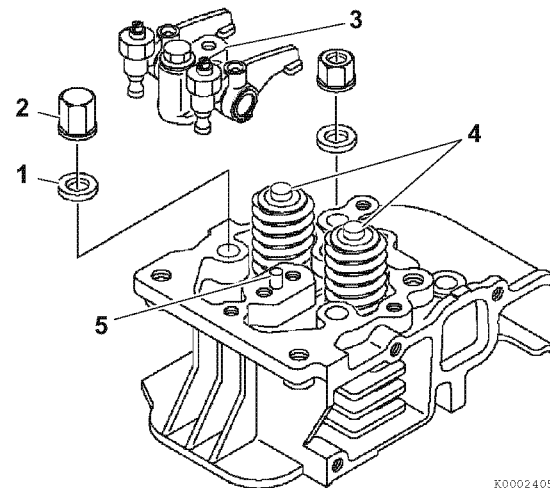

Figure 6-23
*Note: Install the cap nuts (2, **Figure 6-23**) on the studs that will be covered by the rocker arm cover.*
5. Lightly oil the threads of the cylinder head studs. Install the washers (1, **Figure 6-23**) and nuts. Tighten to the specified torque in two steps as shown in the chart below. Tighten in an "X" pattern. *See Special Torque Specifications on page 6-17 for torque values.*
7. Place the valve caps (4, **Figure 6-23**) on the valve stem tips.
8. Install the rocker arm shaft assembly (3, **Figure 6-23**). Be sure the alignment pin (5, **Figure 6-23**) is in place.